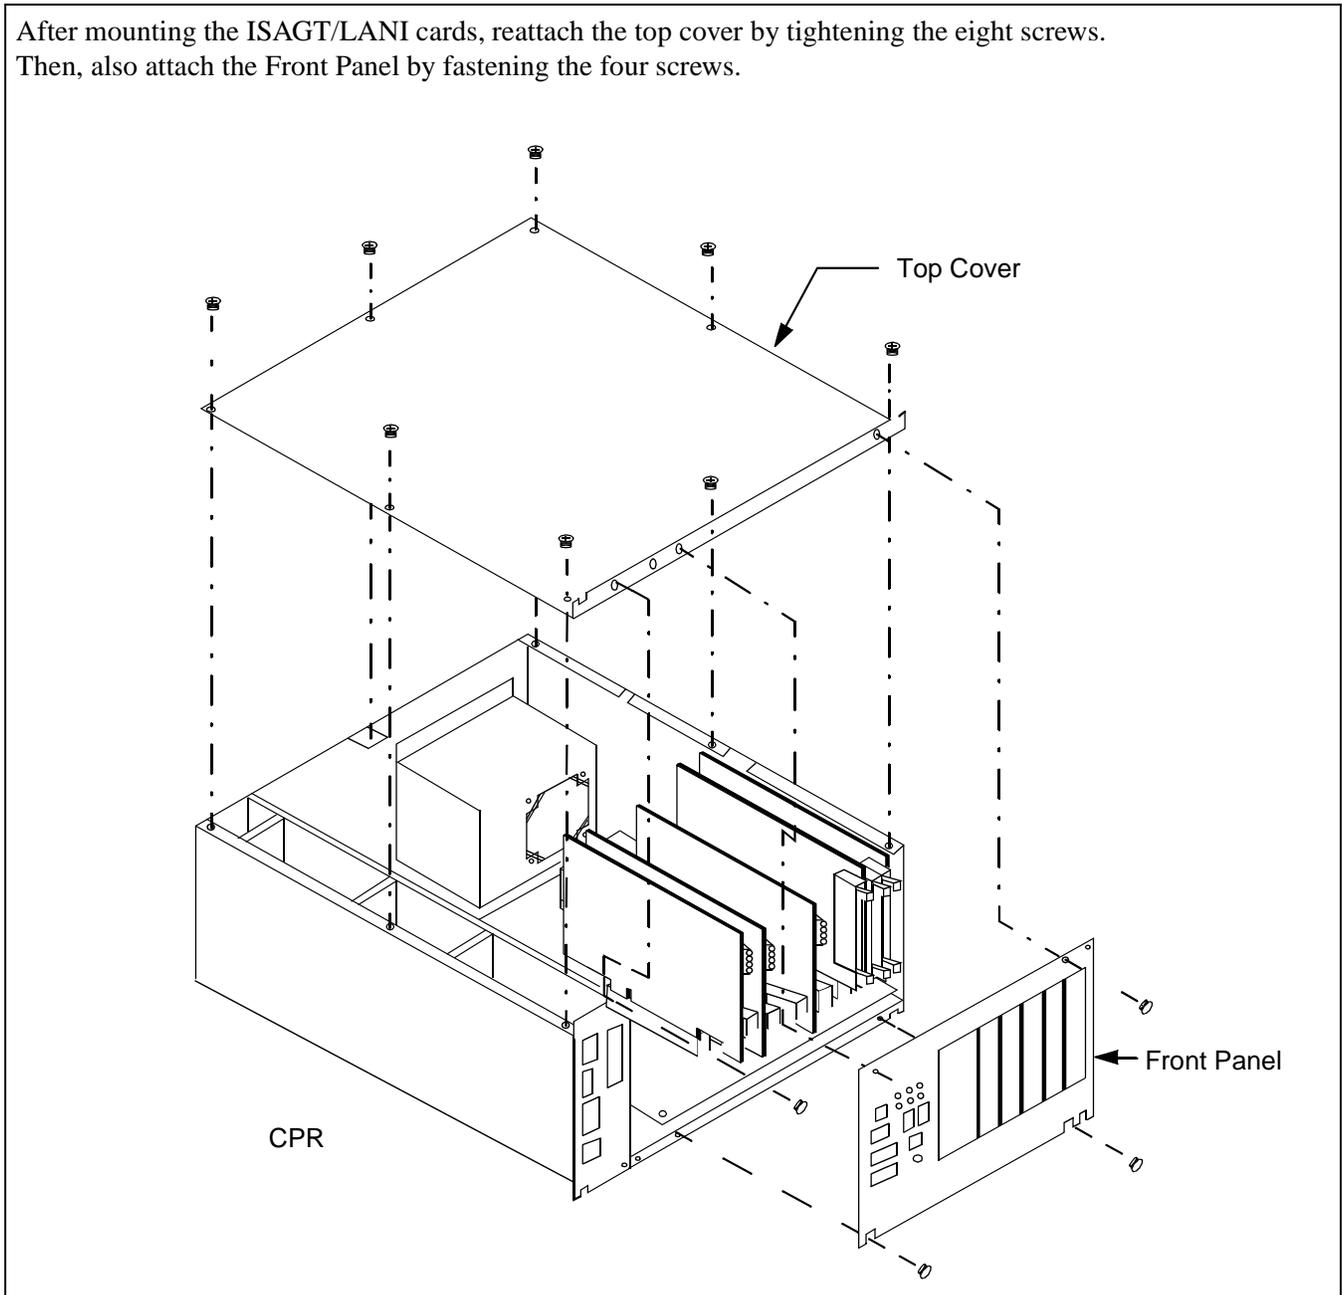

Figure 009-6 Reattaching CPR Top Cover and Front Panel
3. Attach the top cover and front panel again by fastening the removed screws. (Refer to Figure 009-6.)